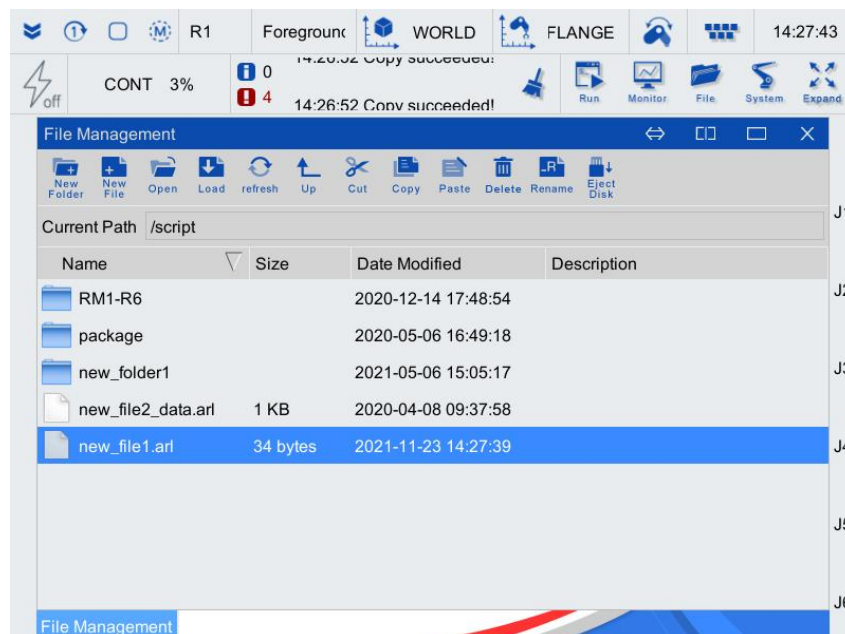

Figure 4-1 File management interface
Step1. Click [File / File Management] in the main interface to enter the [File Management] interface, and click <New File> to create an. ARL program. As shown in Figure 4-1.